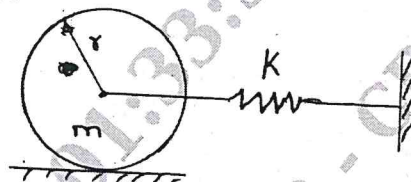

Fig Q8(b)
- b. Find the natural frequency of the system shown in Fig Q8(b) by using Newton's method. Where m and r are the mass and radius of the disc. (10 Marks)